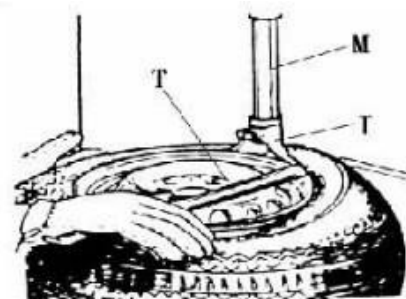

Fig 6
Lower the vertical arm (M) until the mount/demount head (I) rests next to the edge of the rim. Flip the pneumatic locking button (K) to lock the vertical (M) and horizontal arms in position. Make sure that there is a distance of about 2-3 mm between the rim's edge and the mount/demount head. Insert the tire iron (T) between the tire bead and the mount/demount head's (I) front section, and lift the tire above the mount/demount head as shown in Fig 6.